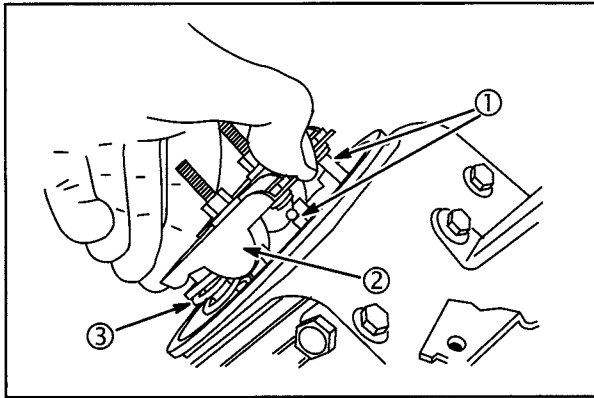

Fig. 13
1. Compress valve spring (3) with rocker arm (2) and insert push rod (1) into rocker arm socket, **Fig. 13**.